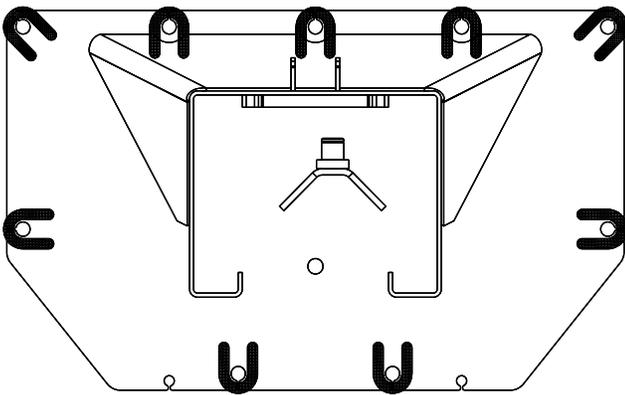

Fig. 3 – Column Shimming
- 9) Shim both columns to plumb using the shims provided as shown in Fig. 3. DO NOT shim more than 1/2" at any given point. Use a level no less than 24" in length to plumb columns.
- 13) Check idler column shimming. Use additional shims (see Fig. 3) to remove any gaps that may have been created while installing overhead beam. Tighten anchor bolts and re-check column for plumb. Torque to 150 foot pounds.